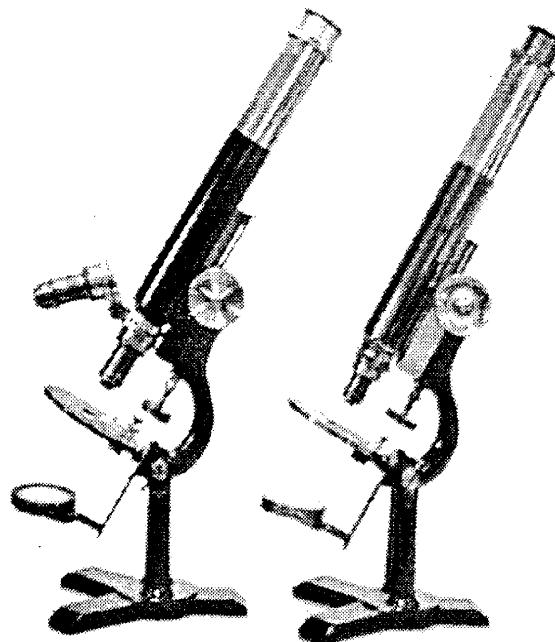

Fig 3. Stealth Tighe (extended) and Tighe No. 3
How could this have happened? The instrument is basically a stock Tighe No.3 (Fig 3), with the following exceptions: (1) No.3's were not supplied (at least by the Tighes) with a rotating nosepiece; (2) it has Leitz objectives, while all Tighe lenses were probably supplied (unsigned) by Gundlach (at least on stands signed and sold by the Tighes), (3) it has a flat B&L ocular, instead of the trademark Gundlach "top hat" optic, (4) the draw tube has a different "collar" at the top, and is fitted with a custom (homemade?) aluminum adapter for the (narrower) ocular, (5) the objectives,